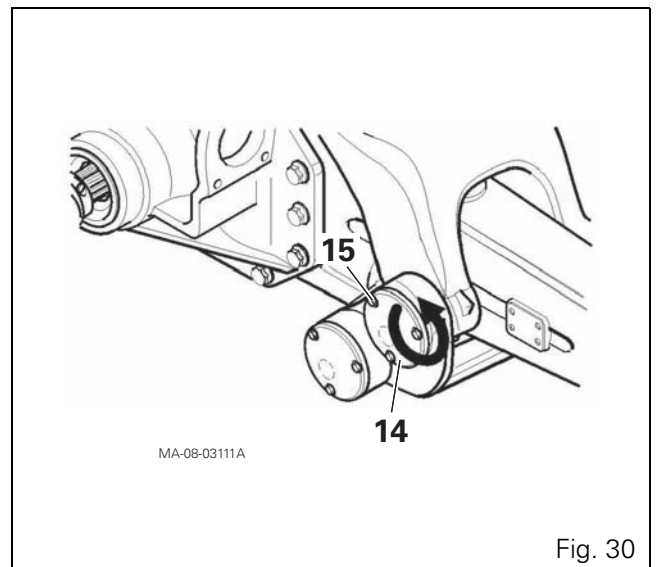

Fig. 30
34. Loosen the screws (15) on covers (14) (Fig. 30).